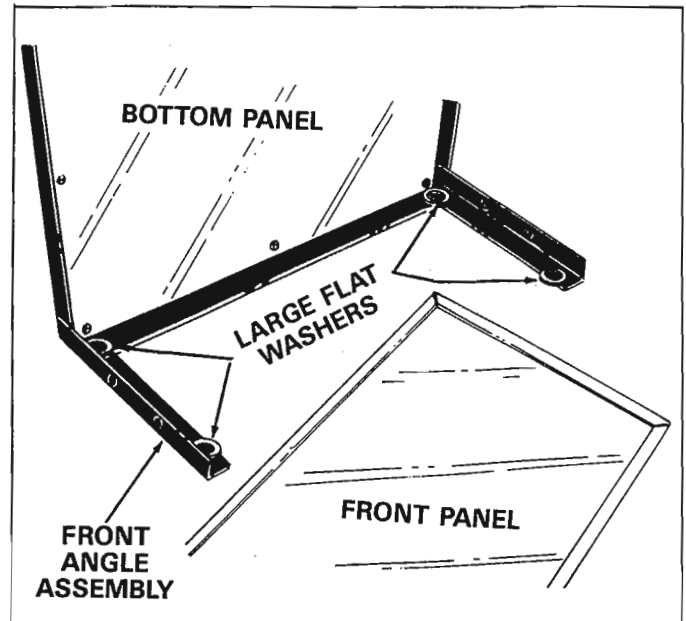

FIGURE 4
6. Stand cart on its front end with front angle assembly on the floor. See figure 4.
7. Place four large 1-1/2" dia. flatwashers (used on wheel axle) on the inside of front angle assembly. See figure 4.